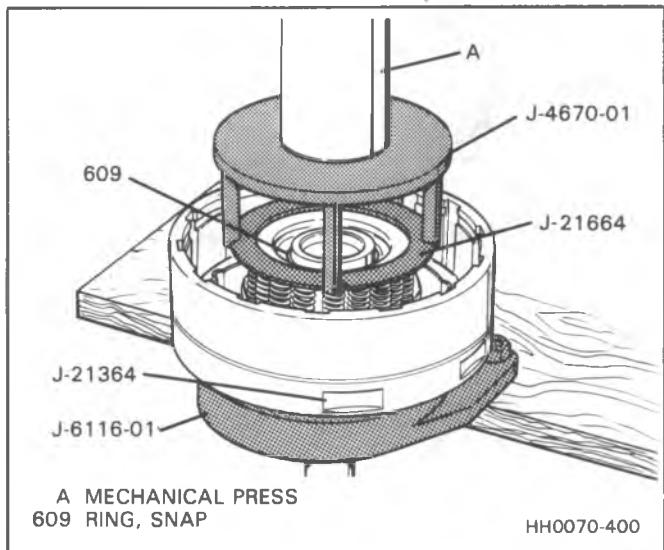

Figure 65 - Removing Forward Clutch Piston
Disassemble (Figure 65 and 66)
**Assemble (Figure 65, 66 and 67)**